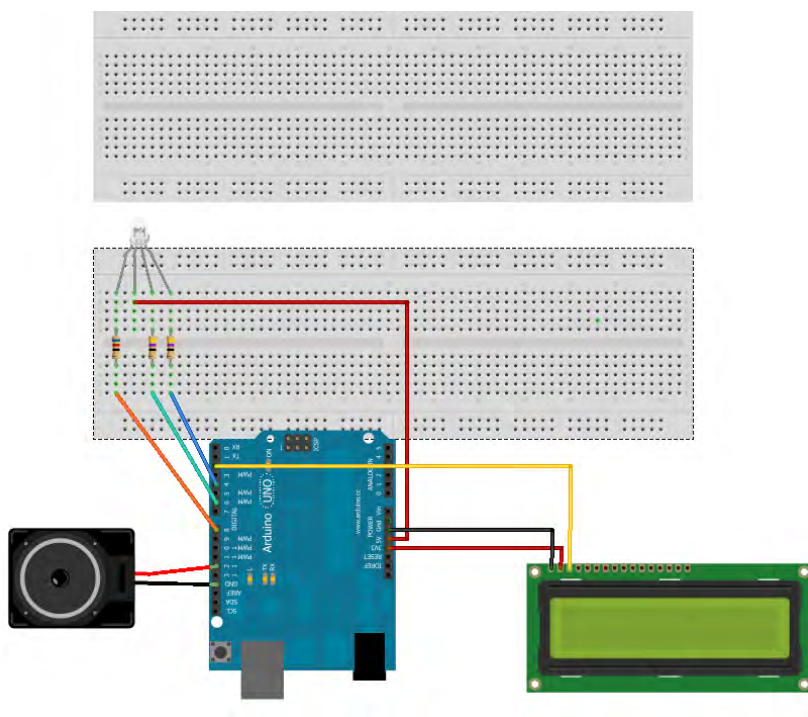

Figure 4-4. Step four.
5. **Select an LED to test.** If you've purchased a large number of LEDs to test, they're likely to arrive in individual plastic pouches. Neatly pull or cut open the plastic pouch containing the LED, take the LED out, and set the pouch aside; you'll need it again soon (Figure 4-4).